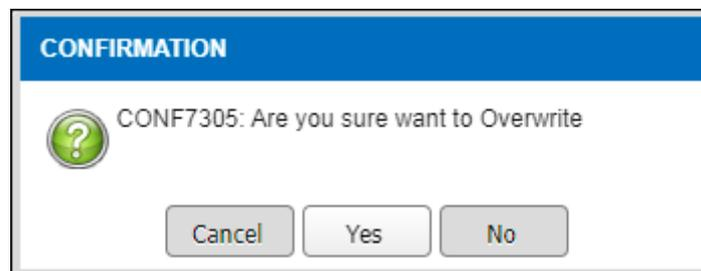

Figure 3.2-3 Confirmation Alert Message
- Once click on overwrite button, alert message will be display as shown in Figure 3.2-3